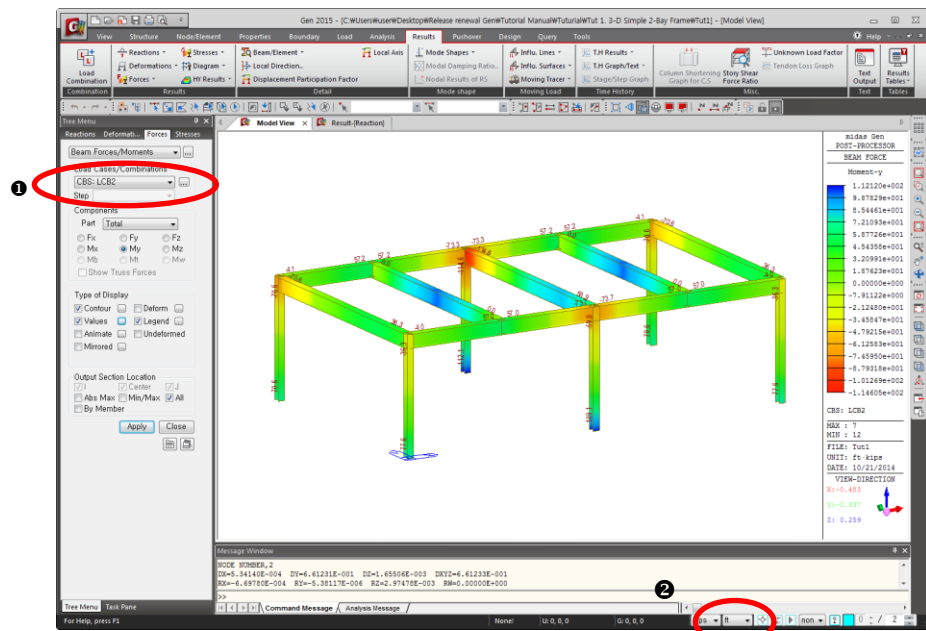

Figure 1.31 Member Forces Contour Lines
1. Click the unit selection button  of Fig.1.31–**2** and select “ft”.
3. Select **Forces** from the functions tab (Fig.1.31–**1**).